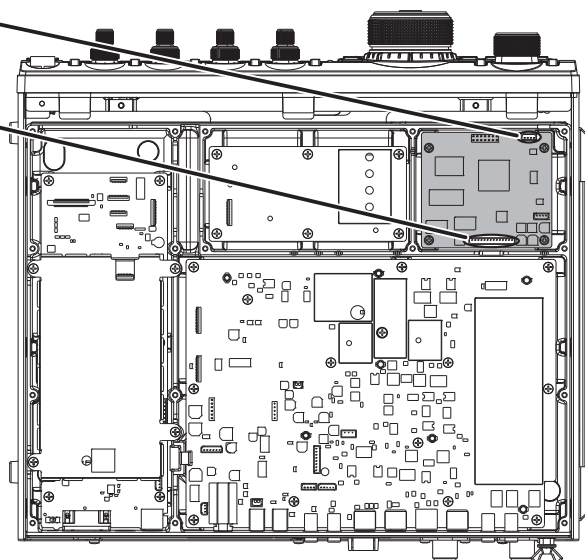

FIGURE 3
6. Referring to Figure 3, connect appropriate cables to the 4-pin and 14-pin connectors on the **FFT-1** respectively.